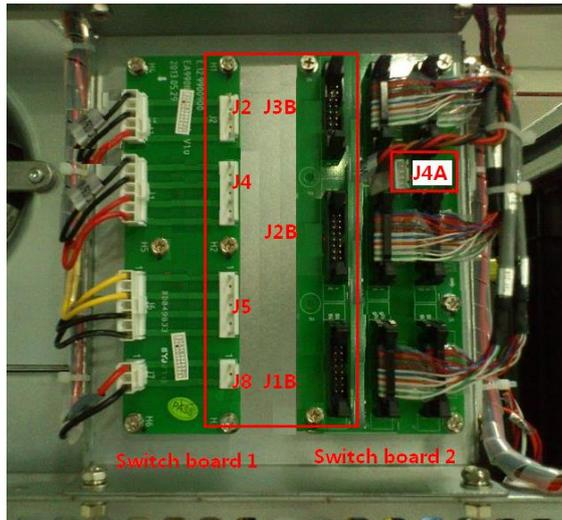

Fig. 3-21: Connection of signal lines of This series (400-500kVA) UPS
5. Connect the signal line. An unconnected signal line on the upper right of the rectifier cabinet is connected correspondingly to the conversion board on the upper left of the inverter cabinet (as shown in Fig. 3-21). The connection between the signal line mark and the corresponding terminal is shown in Table 3-1.